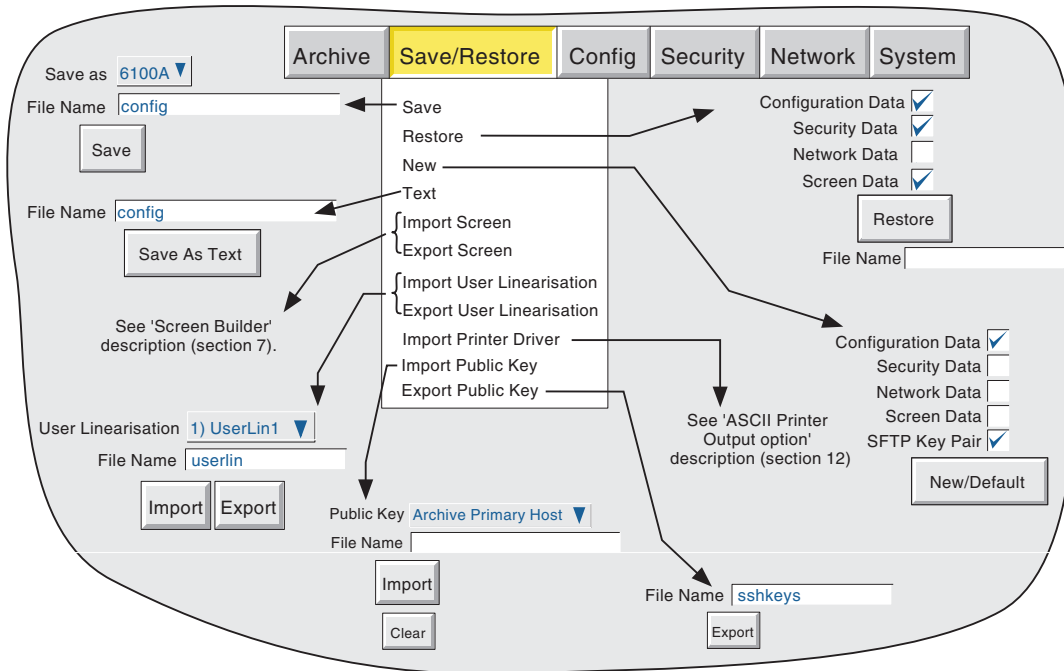

Figure 4.2a Save/Restore menu
As shown in figure 4.2a, touching the 'Save/Restore' key calls the picklist: Save, Restore, New, Text, Import/Export Screen, Import/Export User Linearisation, Import Printer Driver.
1. Select Save/Restore > New, the Save/Restore menu displays, see Figure 4.2a Save/Restore menu on page 73.
2. Click the *Save/Restore* key, then select *Import Public Key* from the drop down menu. (For further information on the menu see Figure 4.2a Save/Restore menu on page 55).The Import Public Key page appears.